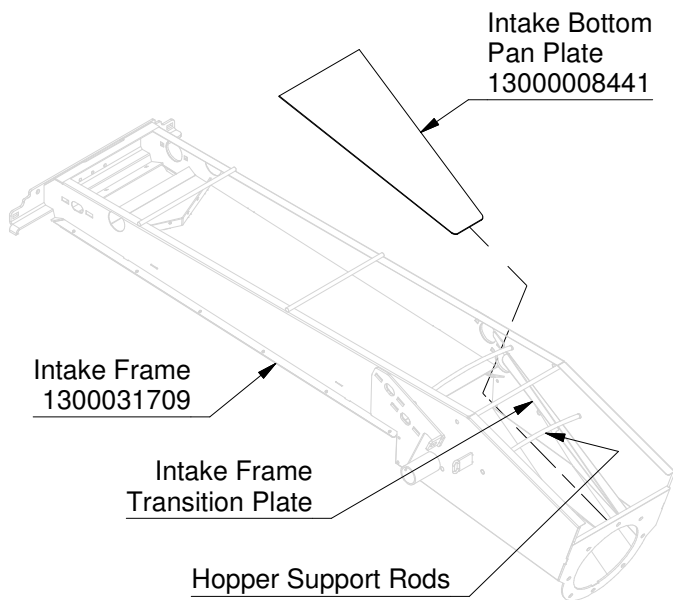
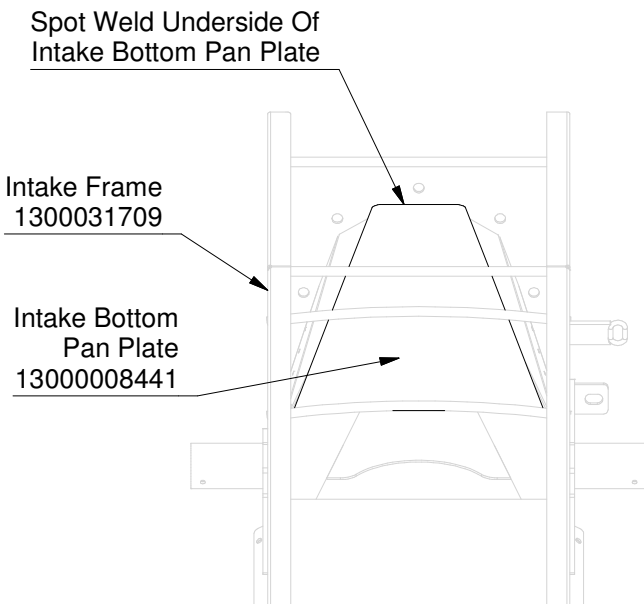

FIGURE 2A
FIGURE 2B
2. Flip the Intake Frame upside down. Place the Intake Bottom Pan Plate between the Intake Frame Transition Plates and the Hopper Support Rods as shown in Figure 2A. Spot weld the Intake Bottom Pan Plate as shown in Figure 2B.